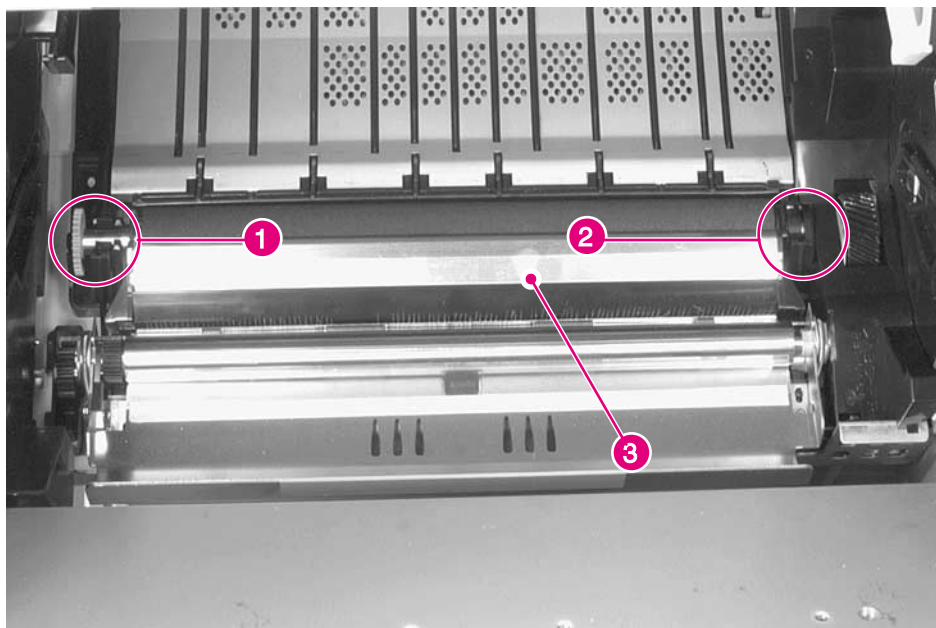

Figure 6-62 Transfer Roller Assembly
- 2 Remove the Transfer Roller Assembly (see figure 6-62 on page 337).
- Transfer Roller (see figure 6-62 on page 337)
- 2 Grasp the gear (figure 6-62, callout 1) on the left end, and carefully lift upward just enough to clear the retainer clip.
- 3 Slide the Transfer Roller Assembly to the left to release the shaft on the right end (figure 6-62, callout 2).
- 2** Hold the Transfer Roller wiper up (figure 6-62, callout 3) and slide the assembly to the right until the gear on the left end is in position.
- 4** Press the Transfer Roller wiper down (figure 6-62, callout 3) until the retaining clips snap into place.